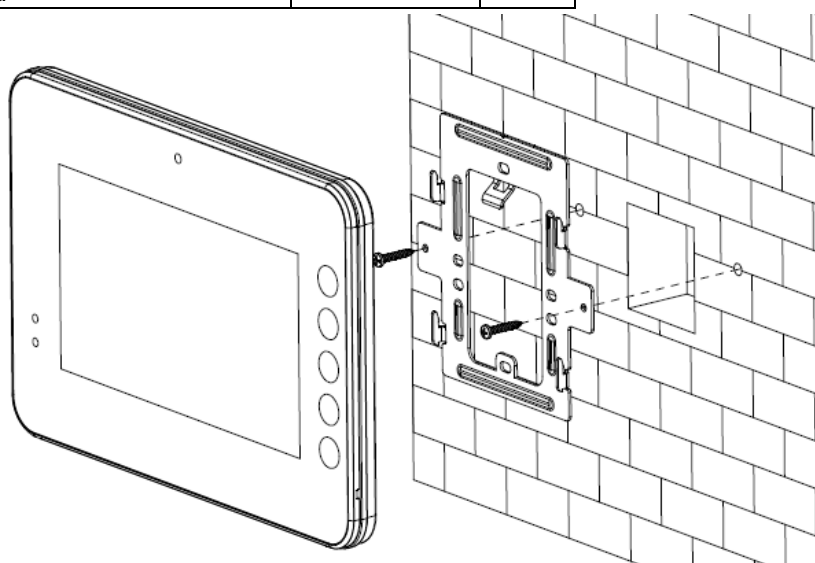

Figure 5-4
- Fix the device on the installation bracket and then use the clip to secure. See Figure 5-4.